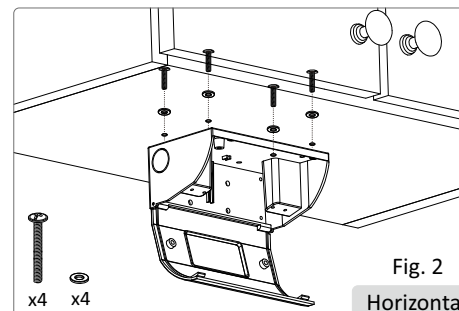
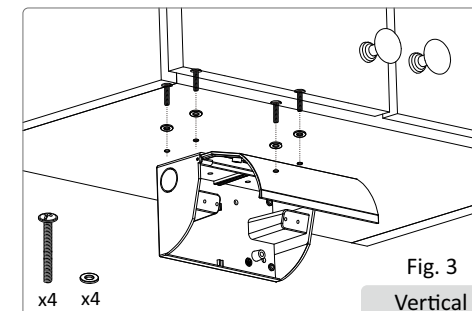

Fig. 2
Fig. 3
1. Select either horizontal (Fig. 2) or vertical (Fig. 3) mounting orientation that suits your needs.